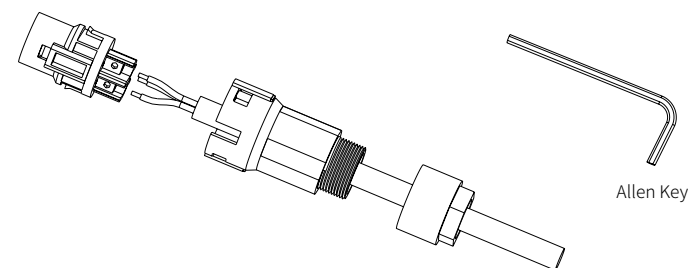

Figure 4-18
③ Insert the stripped end of each three wire into the appropriate hole of the terminal head (yellow green wire to PE port, red or brown wire to L port, and blue or black wire to the N port). Please try to pull out the cable to make sure it is well connected. As shown in Figure 4-18: